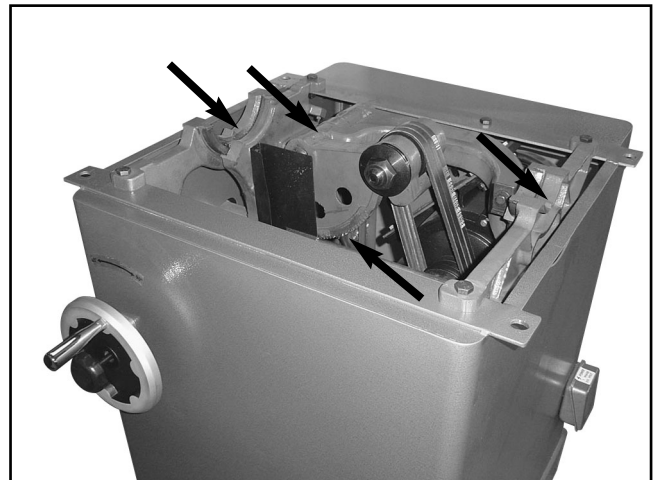

Figure 43. Lubricate these areas.
3. **The two worm gears** should be lubricated with an automotive wheel bearing grease. The blade angle worm gear is not shown in **Figure 43.**